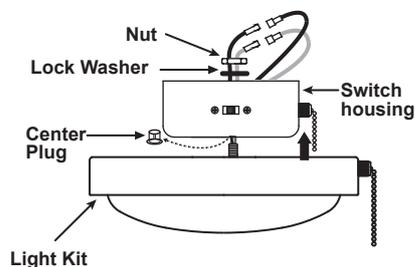

Figure 1
1. Remove and discard the center plug from the switch cup. Attach the LED light kit to the switch cup by feeding the wires and threading the light kit through the hole of the switch cup, secure it to the switch cup by nut & lock washer. Be sure it is tight enough to prevent the light kit from vibrating loose. (Fig. 1)
2. Locate two single white and blue wires in the switch housing labeled "FOR LIGHT". Make the wire connections as follows and secure with the wire nuts provided: (Fig. 1)